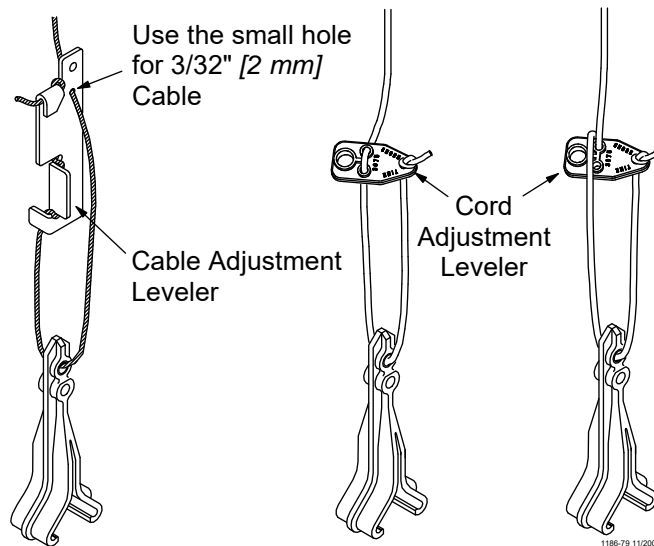

Figure 7. Suspension Drop Installation Options.
8. Cable drop installations: Install a cable adjustment leveler on each suspension drop. See **Figure 7**.
Cord drop installations: Install a cord adjustment leveler on each suspension drop. See **Figure 7**.